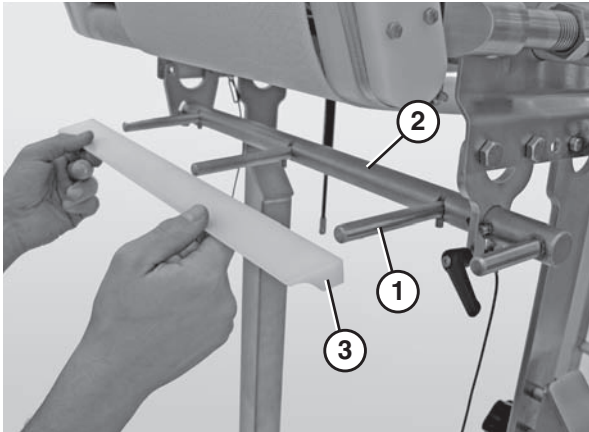

Figure 25
- Attach the scraper bar holders (Figure 25, item 1) to the scraper shaft (Figure 25, item 2).
- Attach the UWHM scraper (Figure 25, item 3) to the scraper bar holders (Figure 25, item 1).